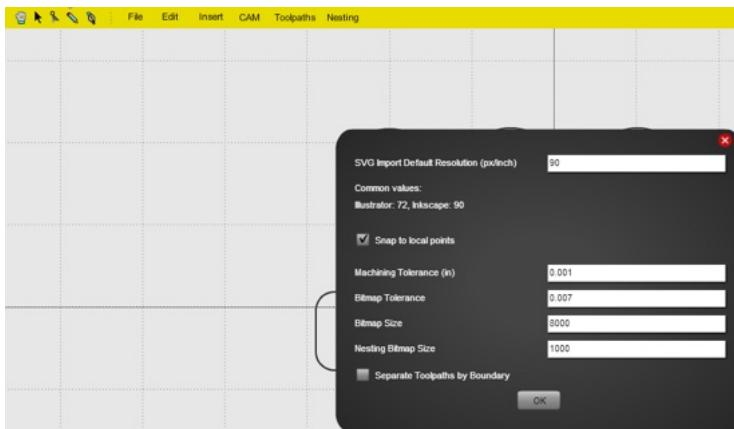

Figure 6-8. MakerCAM SVG import settings
2. Change “SVG Default Import Resolution (px/inch)” to 90, as shown in Figure 6-8.